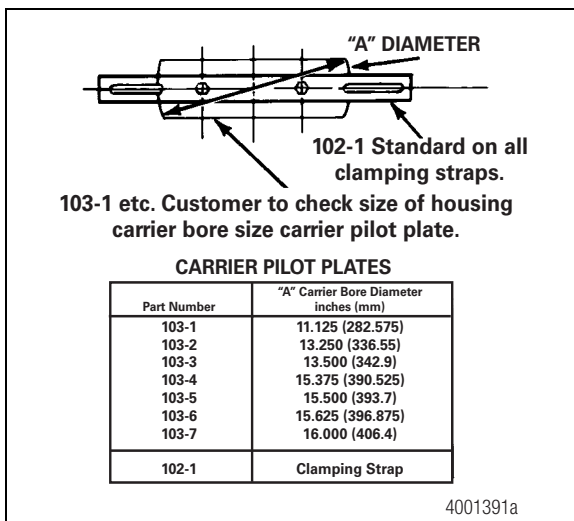
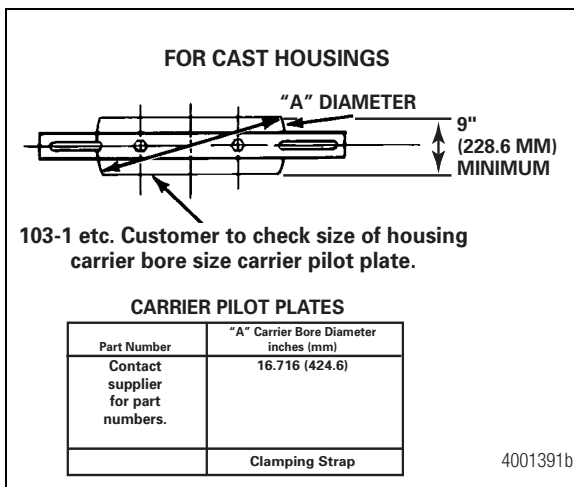

Figure 3.20
Figure 3.21
- One pilot plate and one clamping strap: The pilot plate prevents the axle housing from collapsing when the tube is installed. Measure dimension "A" in the axle housing. The clamping strap fits all pilot plates. Figure 3.20 and Figure 3.21.